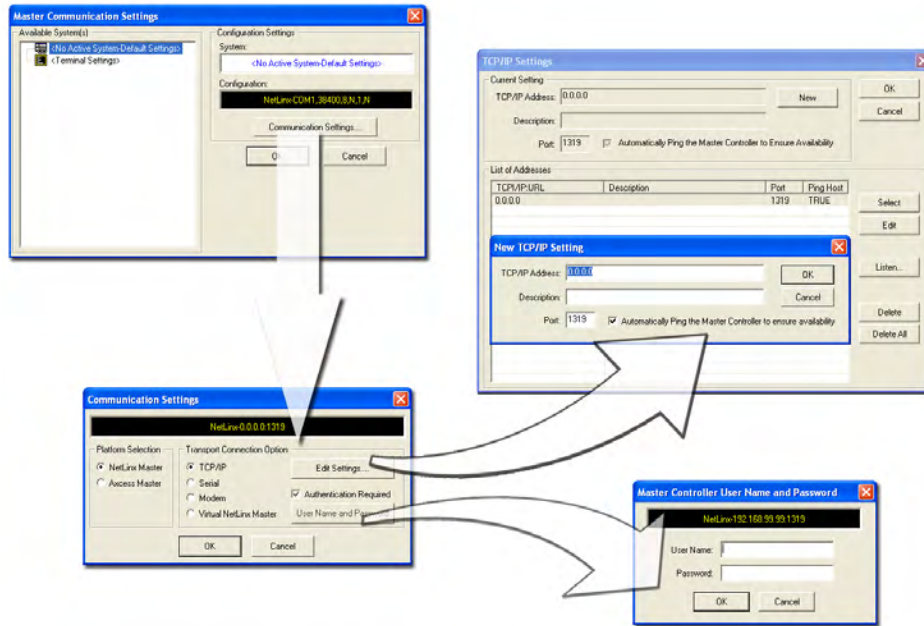

FIG. 38 Assigning Master Communication Settings and TCP/IP Settings
3. Select **Settings > Master Communication Settings** from the Main menu to open the Master Communication Settings dialog (FIG. 38).
7. Click the **Edit Settings** button (on the *Communications Settings* dialog) to open the TCP/IP Settings dialog (FIG. 38). This dialog contains a series of previously entered IP Address/URLs and their associated names, all of which are stored within Studio and are user-editable.